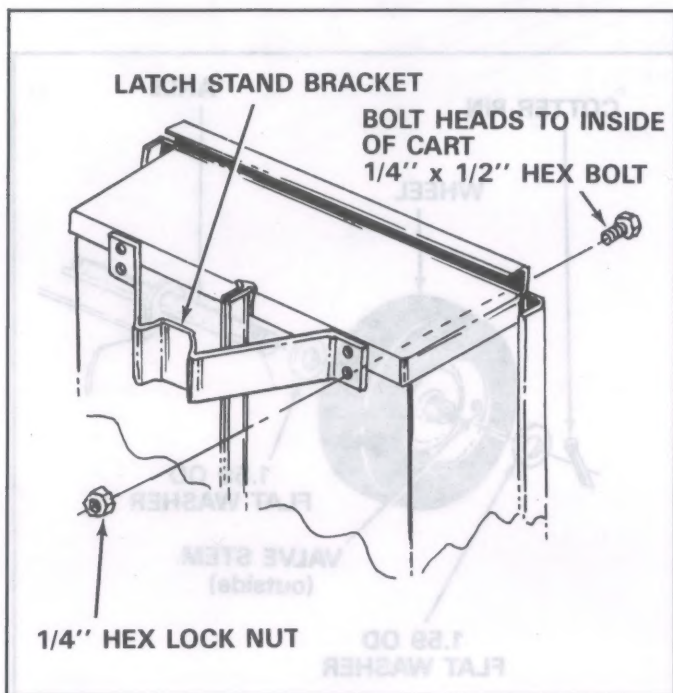

FIGURE 7
12. Assemble latch stand bracket using four 1/4" x 1/2" hex bolts and 1/4" hex lock nuts. See figure 7.